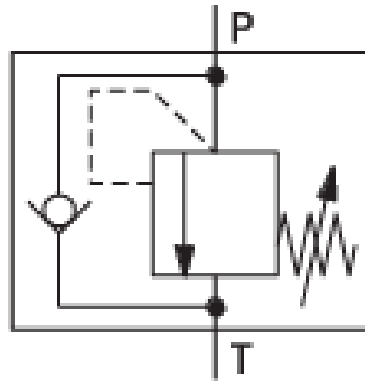

Figure 5.5: A pressure-relief valve and its ISO symbol.
- **Symbol:** Shown in Figure 5.5, it is a normally closed valve held shut by an adjustable spring, with a pilot line sensing the inlet pressure.